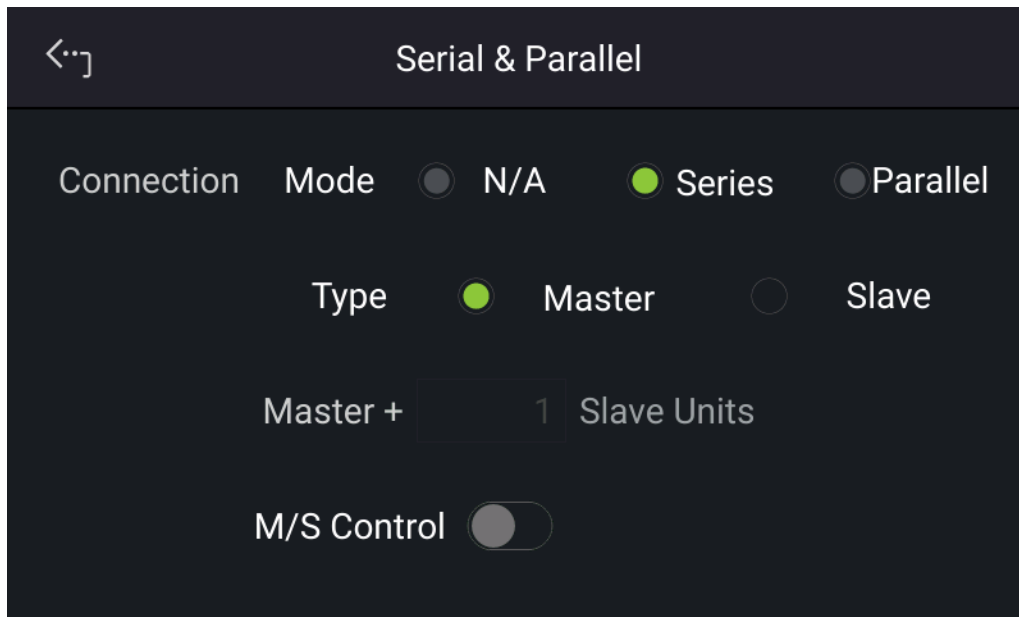

Figure 3-58
1. When D-series power supplies are powered on after the keypro is installed the system will automatically enter into Serial & Parallel mode as Figure 3-58 shows. (Note: Standalone operation is invalid in this mode.)